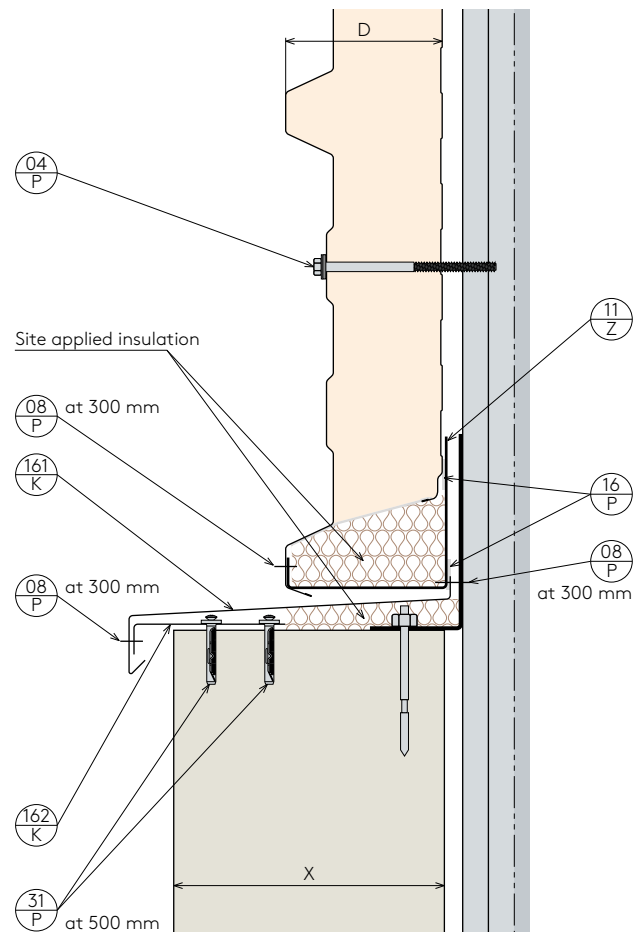

Fig. 62.: Detail D30.8. – Horizontally laid RW panel on a plinth
- We recommend that the bottom horizontally-laid panels be fastened onto a plinth profile (Z 11) that is attached to a concrete curb by every 500 mm or so. (see Fig. 62)